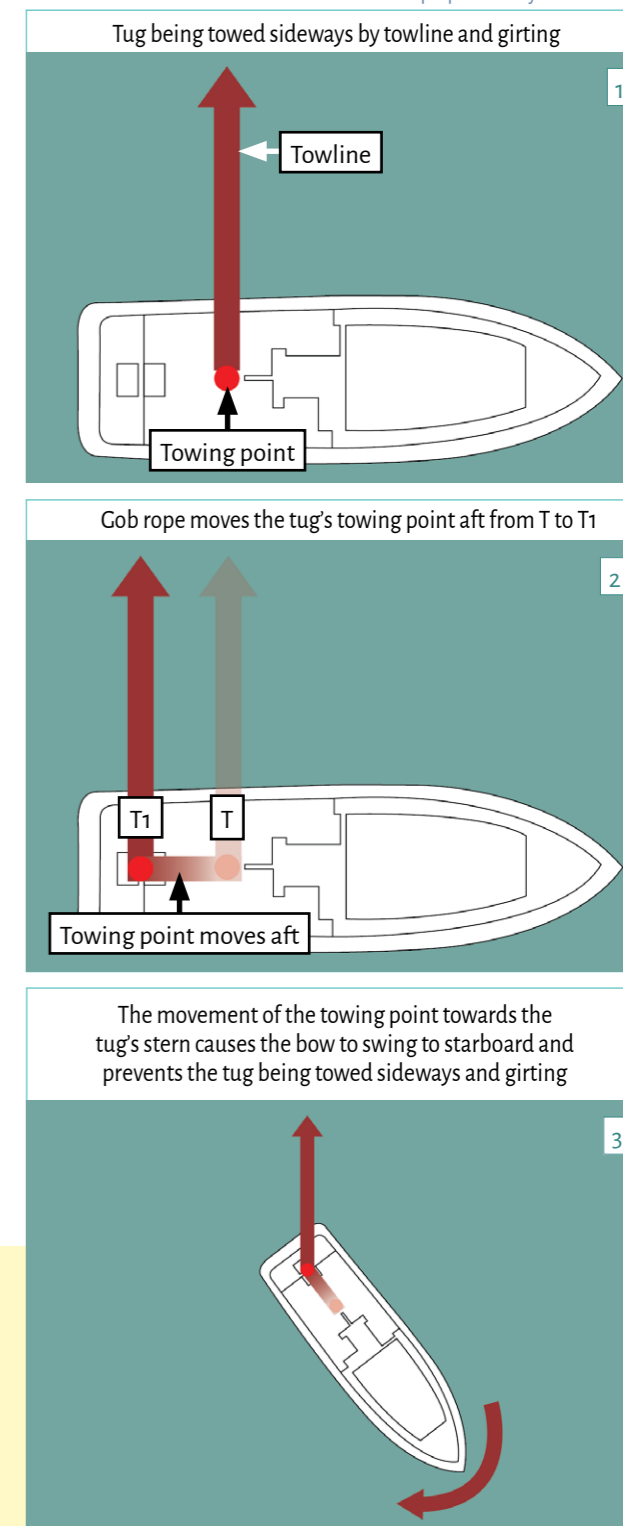

Figure 3: The effect of a gob rope or wire in preventing a tug being towed sideways and girted
- Procedure** → Conventional tugs should almost always use a gob rope or wire. The purpose of the gob rope is to move the tug's towing point aft. Had the gob rope been correctly used on this occasion, it is likely that the tug would have been safely towed backwards by the cargo vessel when the weight came onto the towline. This in turn would have prevented the tug's girting and near-capsizing and minimised the risk to its crew (Figure 3).